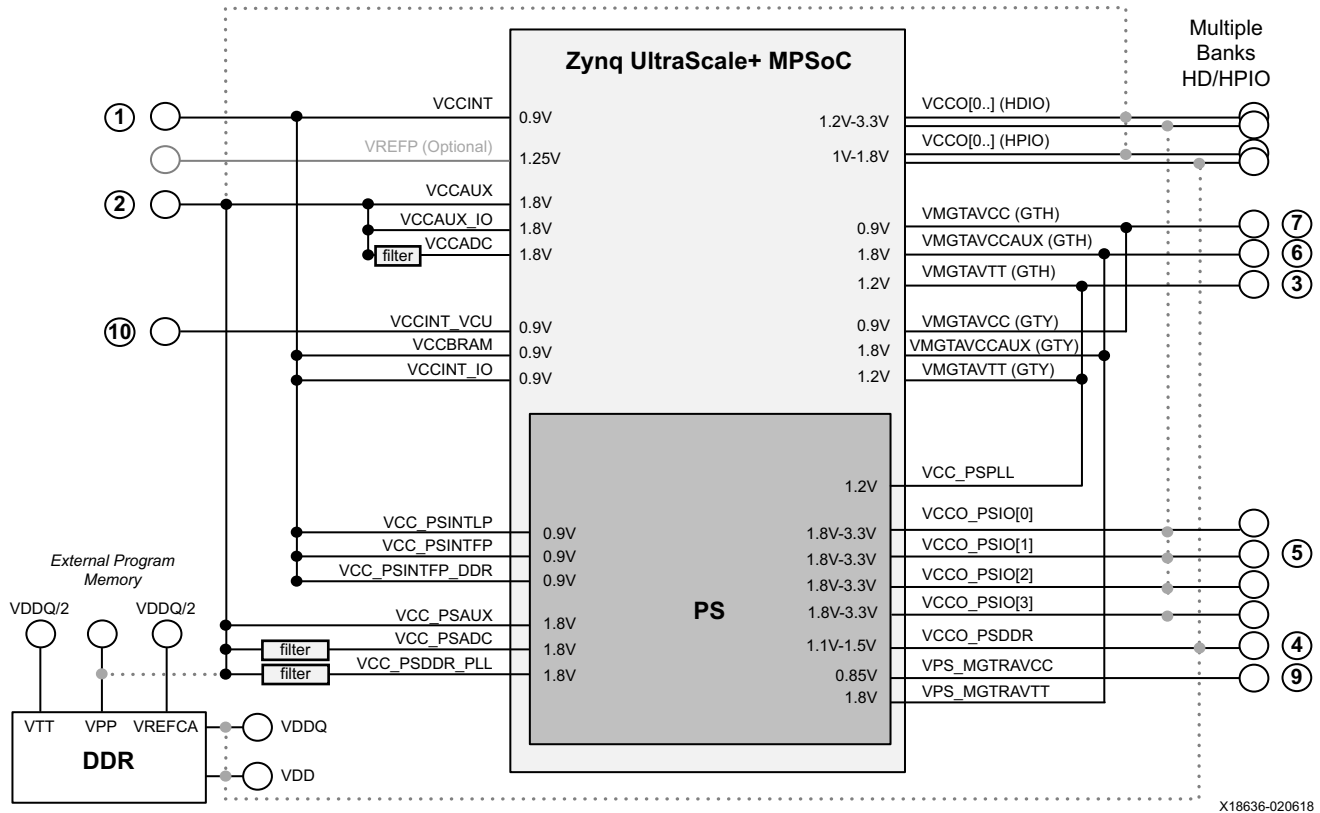

Figure 1-8: Always On: PL Performance-Optimized Rail Consolidation
Table 1-17 broadly defines the power rail consolidation that is possible for this use case, assuming the decoupling and filtering requirements on the individual supplies as outlined in this document are met. For further clarity, Figure 1-8 shows the possible power rail consolidation graphically. As shown in Table 1-17, the minimum number of power regulators required to power a Zynq UltraScale+ MPSoC in this use case is five for non-EV devices, and six for EV devices.
**Note:** In Figure 1-8, the dashed lines are dependent on the user configuration.